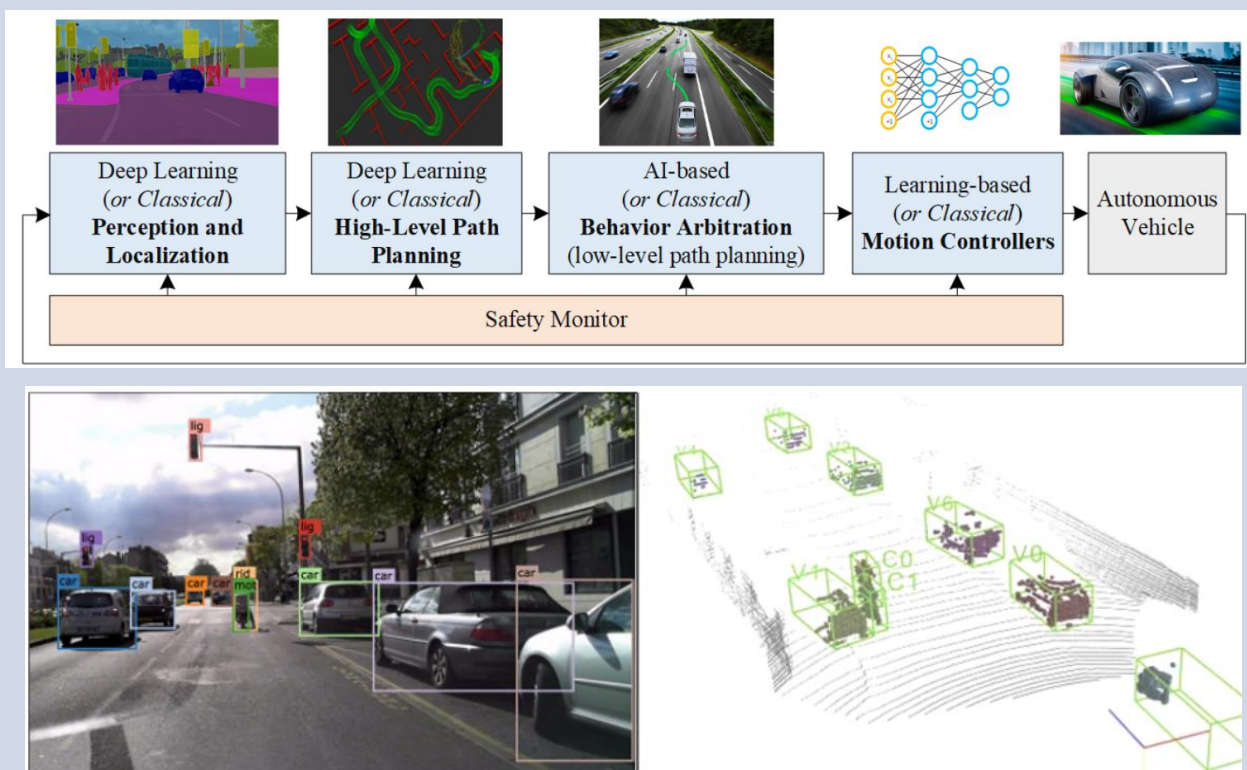

Figure 8: Top: Architecture for self-driving cars with deep learning.
<ul style="list-style-type: none"> <li>Deep Learning (DL) is an advanced type of ML based on artificial neural networks (as explained in the previous section) to process and classify data.</li> <li>Capable of complex decision-making.</li> <li>The leading programming language is Python, which is open source.</li> </ul>	<ul style="list-style-type: none"> <li>Autonomous vehicles use deep learning algorithms to make real-time decisions based on the environment around the vehicle, as depicted in Figure 8.</li> </ul>